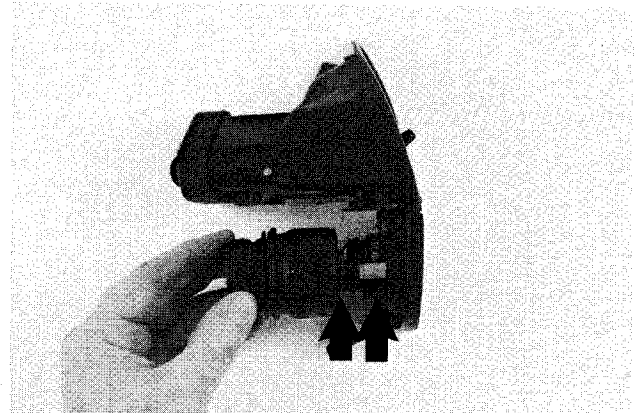

Fig. 12. Fit groove on headlight switch into switch bezel on dash insert (arrows).
5. Installation is reverse of removal. Align new switch to dash insert. See Fig. 12.